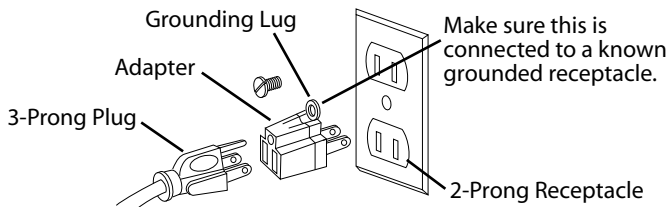

Figure 2 – 2-Prong receptacle with adapter.
- A temporary 3-prong to 2-prong grounding adapter (See Figure 2) is available for connecting plugs to a two pole outlet if it is properly grounded.